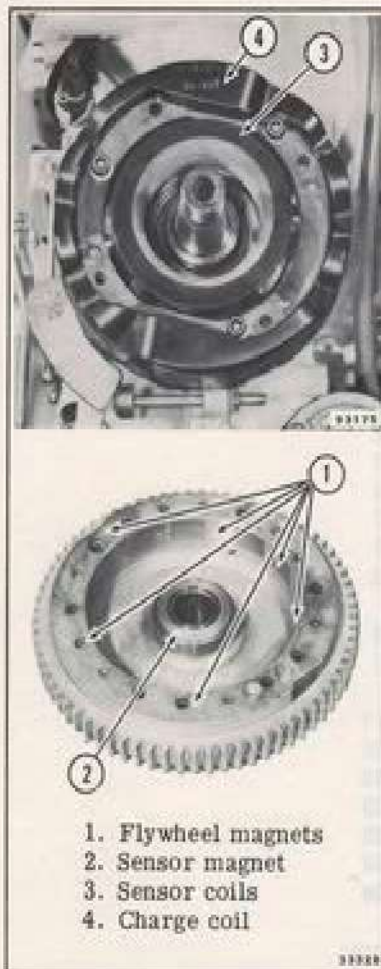

Figure 4-1. Flywheel and Stator Assembly
1. Flywheel assembly, which contains six magnets cast into the flywheel 60° apart, and sensor magnets with two poles 180° apart located in the center hub. See Figure 4-1.
4. One power pack assembly containing the electronic circuits necessary to produce ignition at the proper time: capacitor charge circuit to store energy, and sensor circuit for triggering the capacitor discharge (CD) circuits.